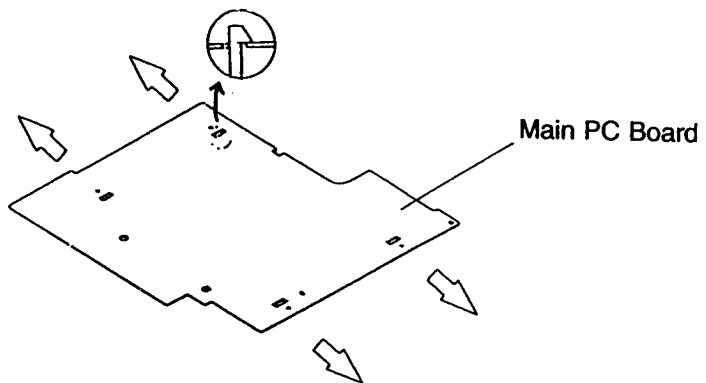

Figure 7
5. Remove the main board (Figure 7).